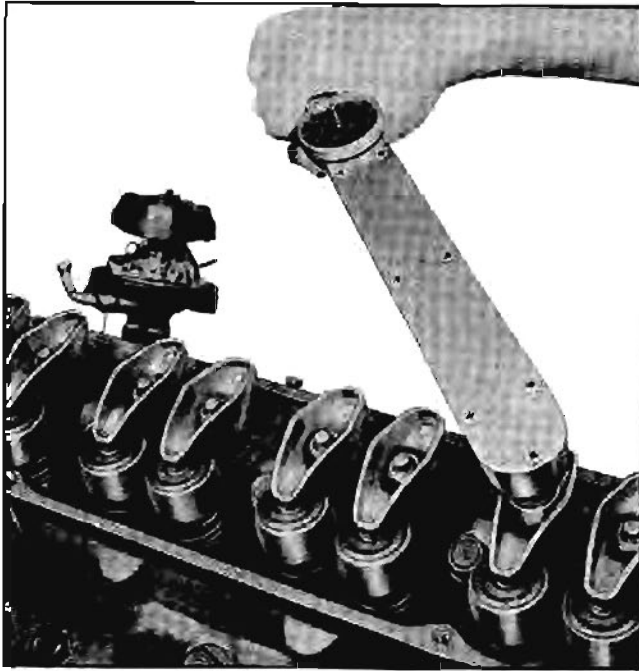

Fig. 6-18 Torqueing Rocker Arm Nut
2. Position rocker arms and tighten rocker arm nuts to 15-25 lb. ft. torque (Fig. 6-18).